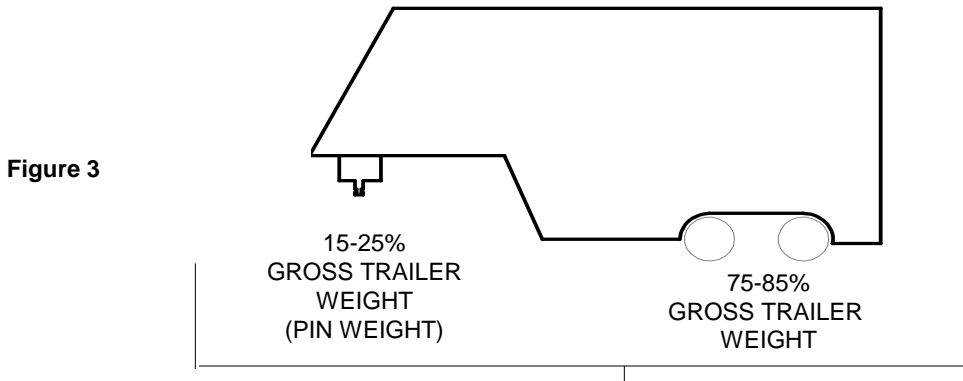

Figure 3
- King pin weight must not exceed fifth wheel rating (Figure 3). If in doubt have king pin weight measured by a qualified technician.
4. Approximately 15%-25% of trailer weight should be on hitch (Pin Weight)(Figure 3).